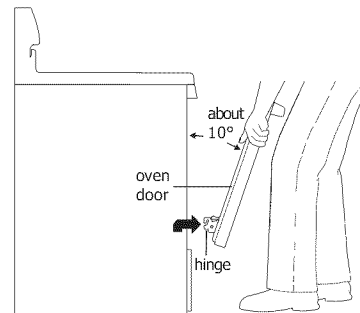

Figure 44: How to remove door
3. Firmly grasp both sides of oven door along the door sides (Do not use the oven door handle - Figure 44).
1. Firmly grasp both sides of oven door along the door sides (Do not use the oven door handle - Figure 44).